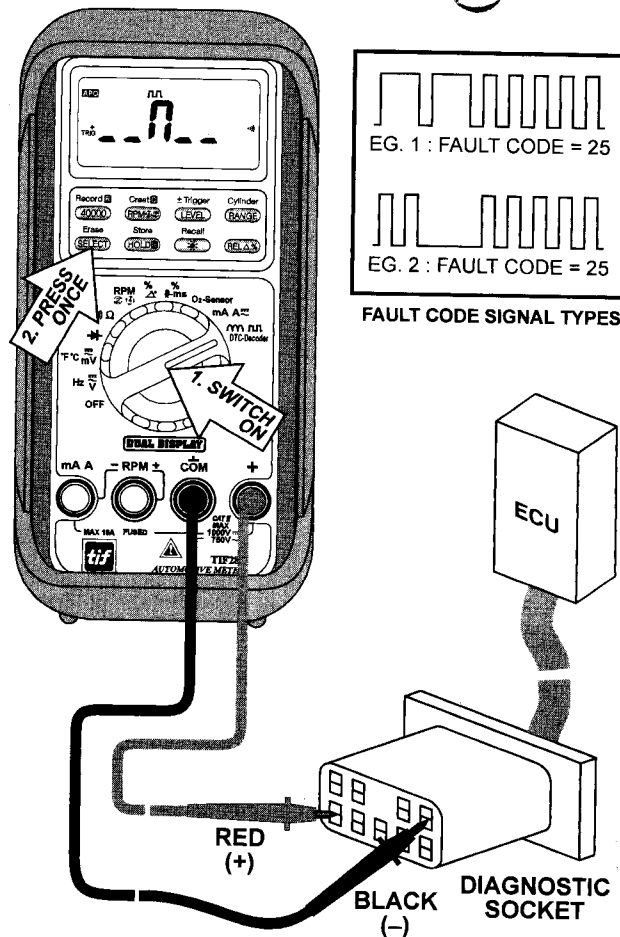

FIG 14. FL FAULT CODE DETECTOR FUNCTION
- 3) Insert red (+) test lead into + jack and black (-) test lead into **COM** input jack. See **FIG 14**